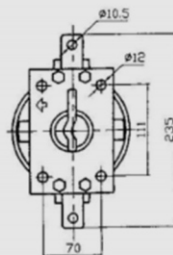

Fig 2
4. Push the bushing well horizontally into the hole of the equipment, and press on the triangular plate and fix the three mounting holes into the corresponding equipment welding screws. Put the flat washer and the spring washer into the nut until the spring washer is flat and the torque is about 30N.m. (Fig 2)